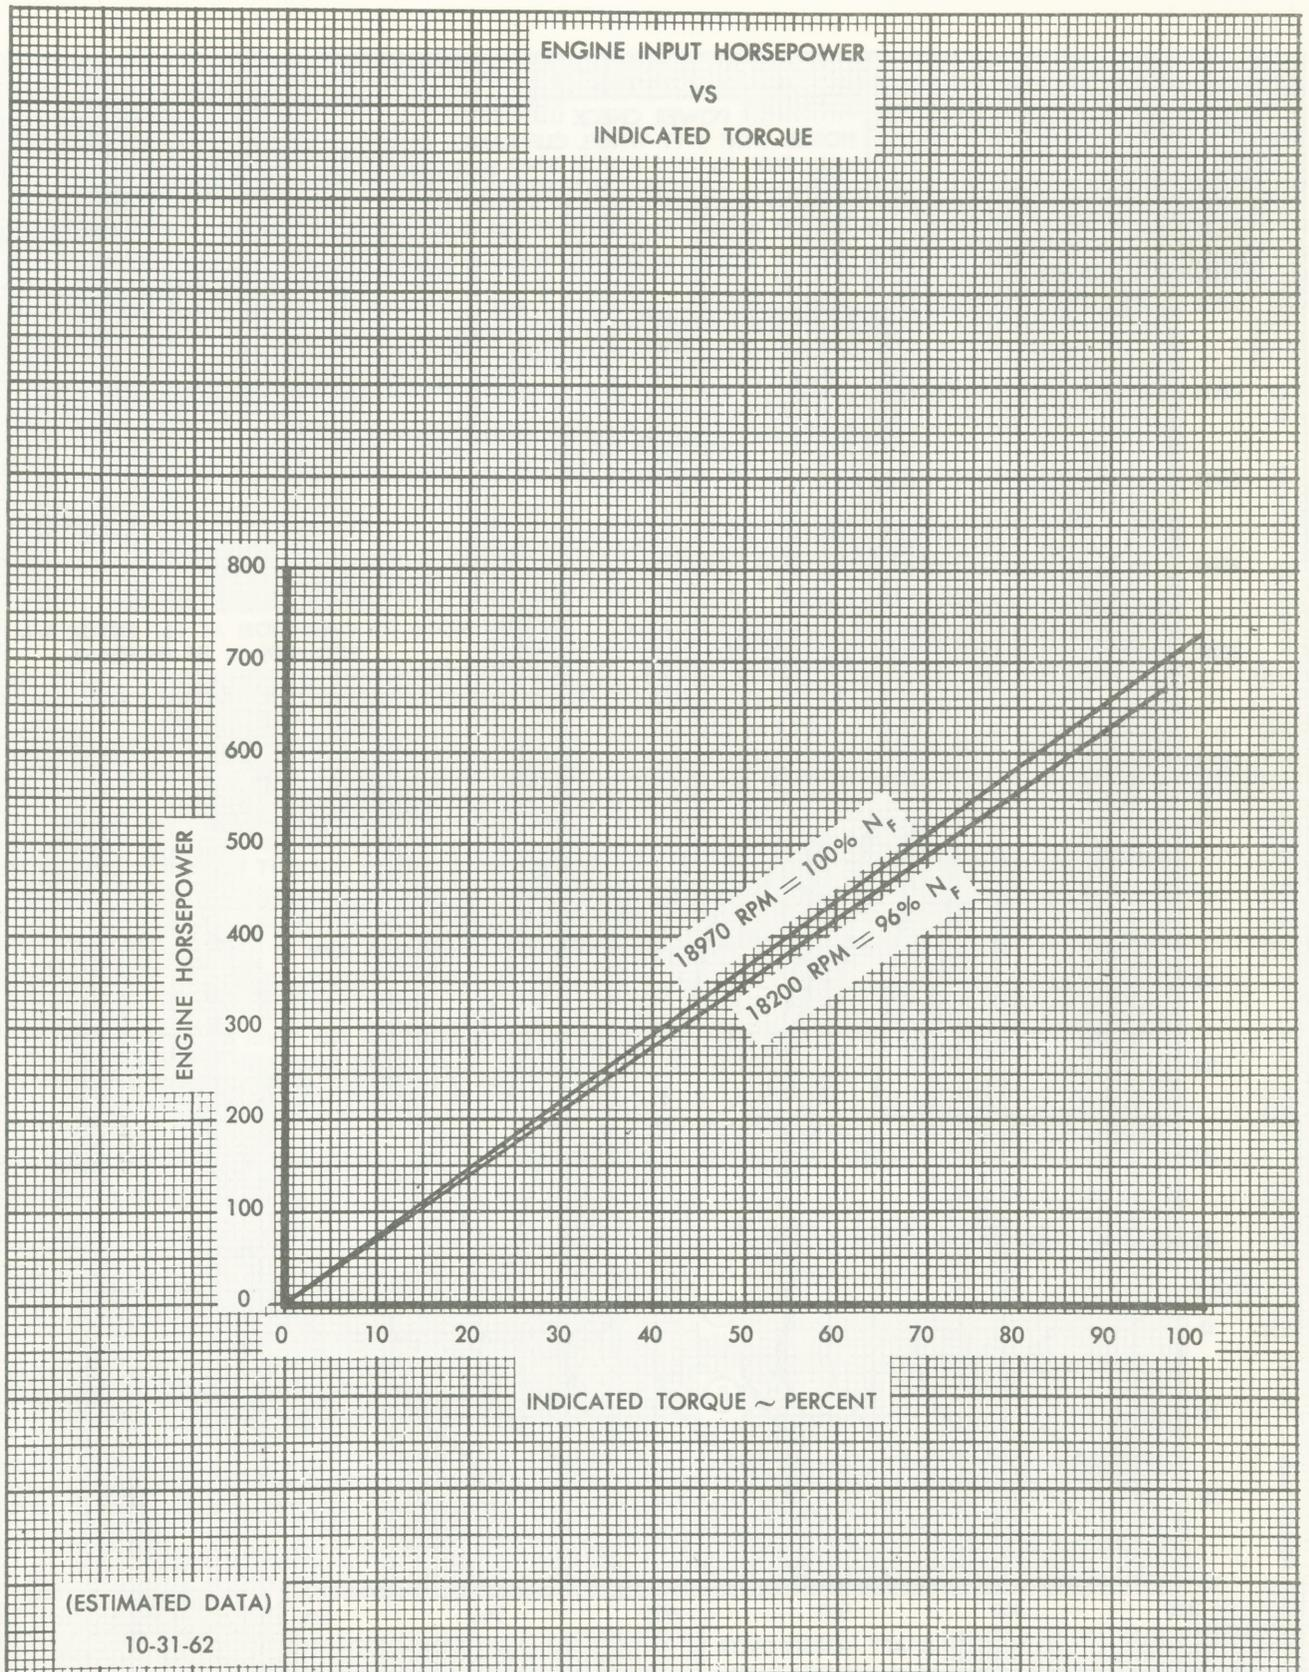

Figure 34.
1. Enter the chart at 3000 feet, (A).
2. From (A), proceed horizontally to 7300 pounds, (B).
3. From (B), move vertically down to 3000 feet, (C).
4. From (C), follow the temperature influence lines to 20°C (D).
5. From point (D), proceed vertically down to zero headwind, (E).
6. From (E), follow the wind influence curve to 8 knots, (F).
7. From (F), move vertically down to read 518 SHP at (G). To determine corresponding torque, refer to Figure 34, Engine Input Horsepower vs Indicated Torque, using the 96% N_f scale.